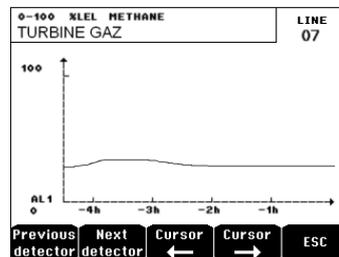

Figure 45: Example of a curve display screen.
- **Curve:** Display of the measurement curves of the last 4 hours (Figure 45). The → and ← keys allow cursor displacement through the time scale. The vertical dotted line displays the concentration and time stamp of the point being considered. Escape: return to display of values.